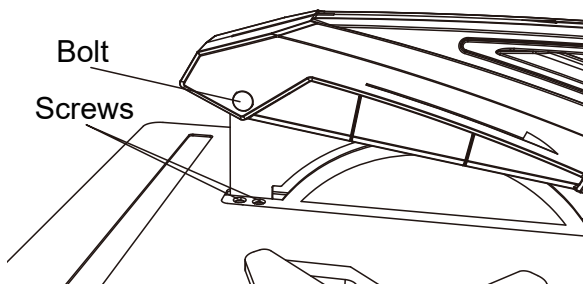

Figure 1
1. FITTING AND ADJUSTING THE BLADE GUARD BRACKET/BLADE GUARD (SEE FIG. 1)